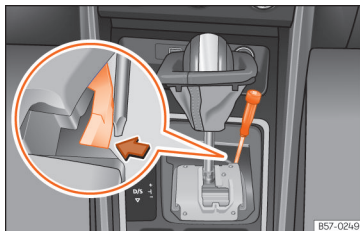

Fig. 137 Gear selector lever: manual release from the parking position.
- Using the flat part of a screwdriver, press the yellow tab sideways and keep it pressed down »» Fig. 137.